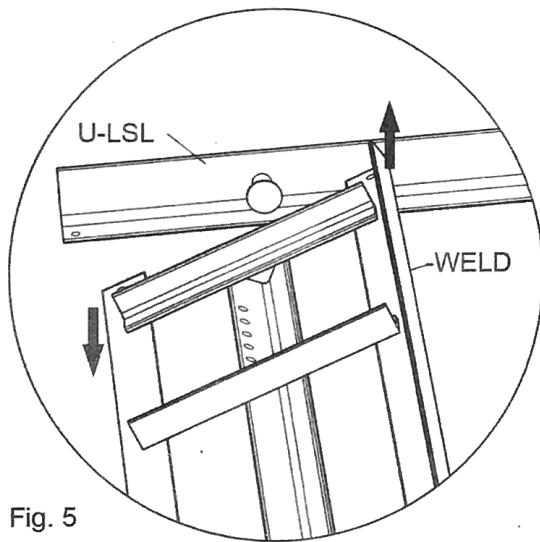

Fig. 5
11. Using 1" bolts (UMB75) and nylon insert locknuts (UMNNYL), hand-tighten the provided weldment (WELD) to the side rails with the spring holes towards the head of the bed. Make sure the weldment straddles the side rails as shown in Fig. 5. The head end is below the side rails, and the foot end is above the side rails.